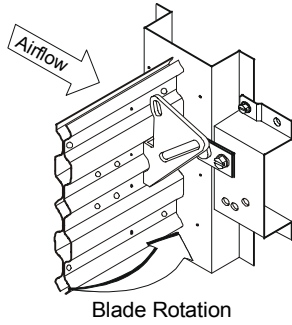

Figure 17: Power Fail Closed with Actuator Mounted Downstream on Right Side of Damper
2. Secure the blade arm to the preferred driving blade. Refer to Table 2 or Table 3 for drive blade position. Refer to Figures 17 through 24 for applications.